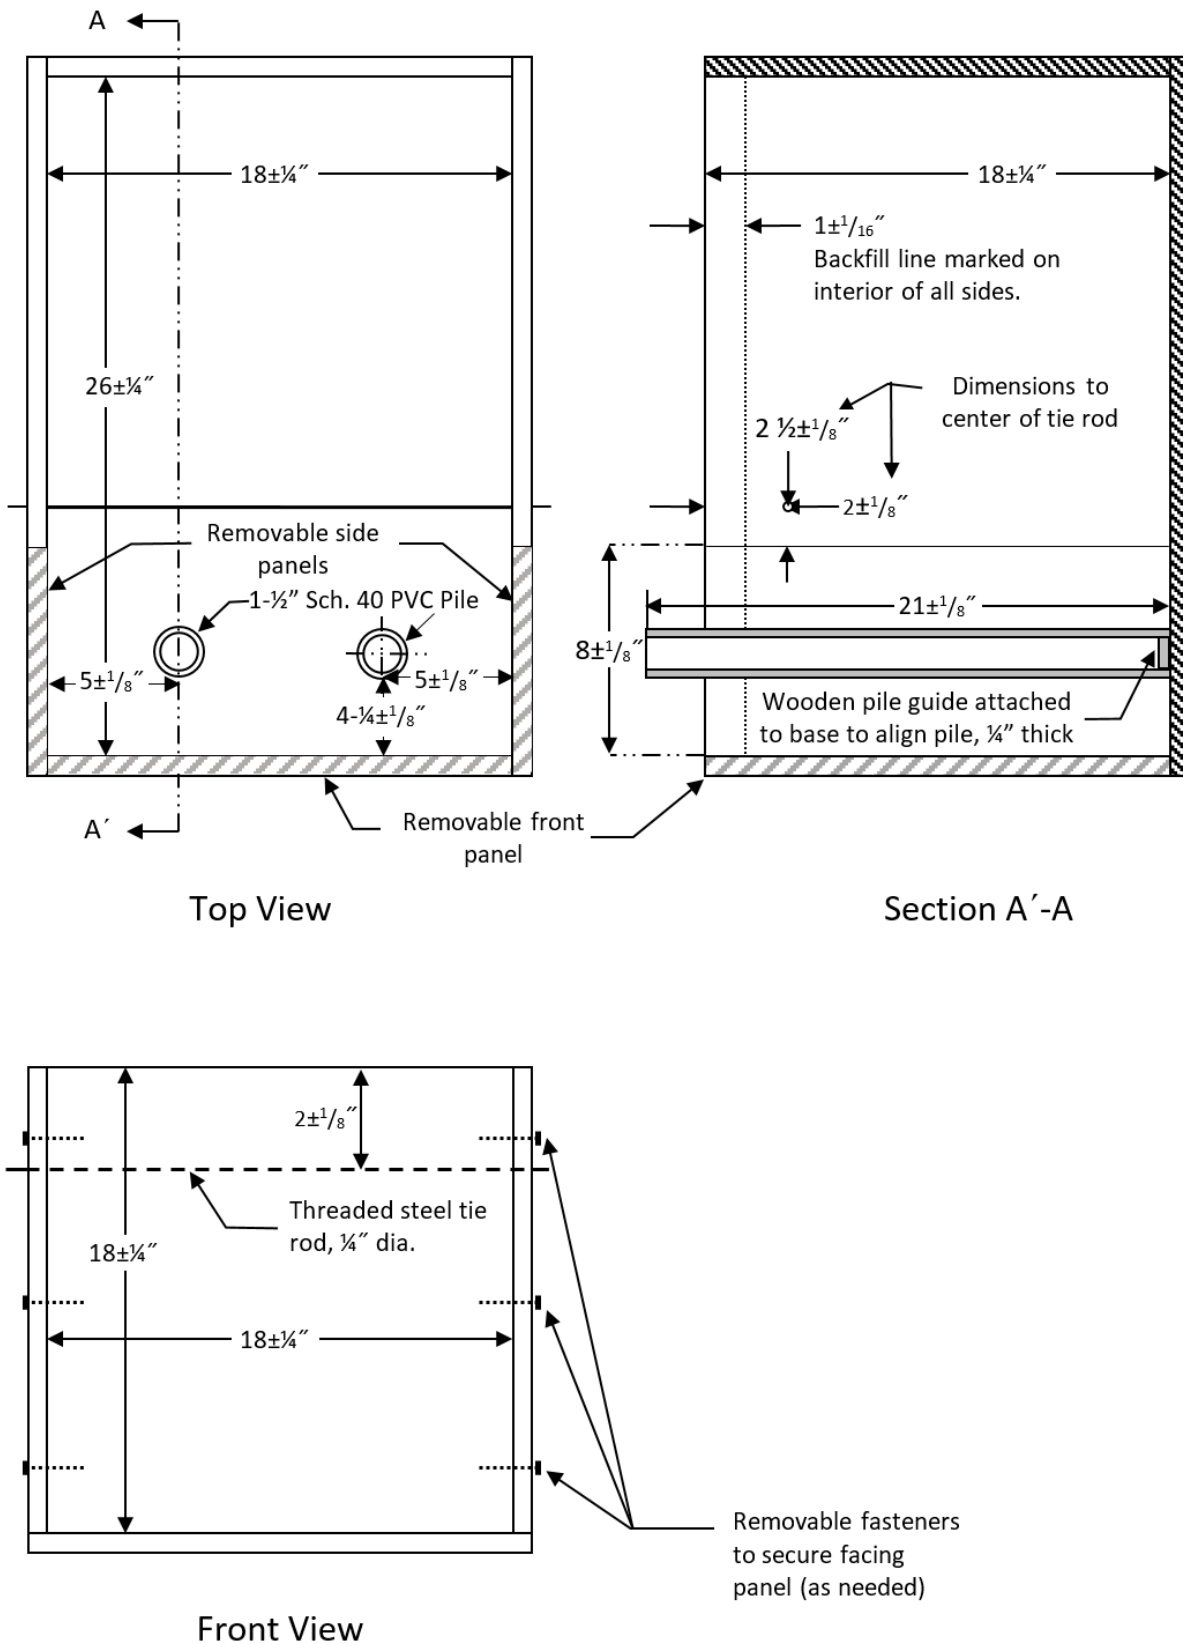

Figure 2: Sandbox dimensions (not to scale)
6. **Sandbox** – The MSE wall is to be constructed within an apparatus hereafter referred to as a sandbox. Each team shall bring their own sandbox to the competition. Painting and the addition of school or sponsor logos and other decorations to the exterior of the sandbox is highly encouraged. The sandbox shall be made up of a bottom and four vertical sides with no top. The front panel and part of the two side panels are removable as shown in Figure 2. The removable box panels will be in place during wall construction and removed after construction to expose the MSE wall. The sandbox will also include two PCV piles as shown in Figures 2 through 4. The sandbox shall meet the following requirements:
- c) Have removable front and side panels as shown in Figure 2. Panels must be flush with the base of the box and held in place with threaded inserts, screws, hinges or other easily removable fasteners.
- h) All dimensions of the sandbox shall be as shown in Figures 2 and 3.
7. **Piles** – Two vertical piles will be used to apply the horizontal load to the backfill behind the wall. Each team will provide their own piles. Piles will be fabricated out of 1½ in schedule 40 PVC pipe. Please see Figure 2 for the pile locations and length requirements.
- c) **Construction Stage** – After the wall is assembled and checked by the judges, the judges will instruct the team to start construction. During this stage, the team fills the box with sand so that the sand fill line (see Figure 2) is covered and the backfill is level, and places the empty rectangular vertical surcharge bucket on top of the sand. The facing material must be in direct contact with the inside of the sandbox at all times during this stage. The tie rod may be removed from the box at the start of this stage, but it must be in place before any sand is placed in the box. Temporary templates or guides may be used during this stage so long as they are removed before the end of the stage.